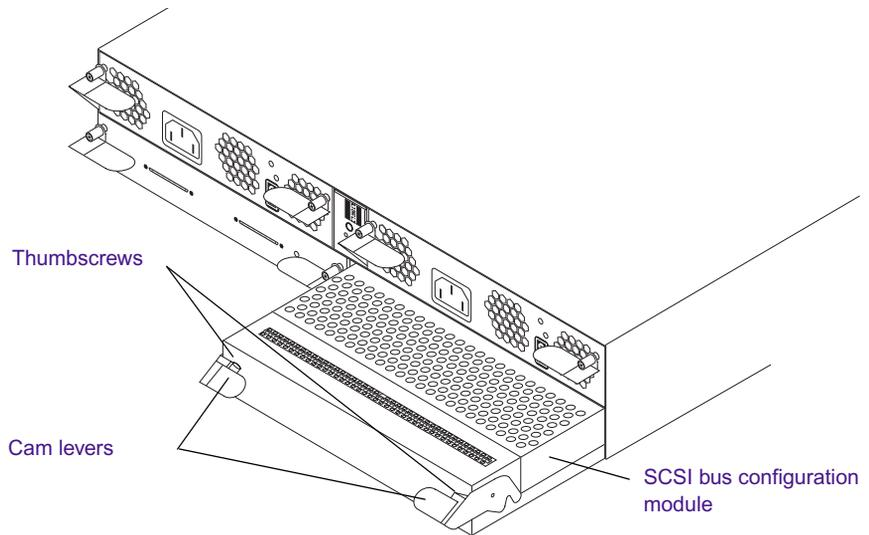

Figure 9 Removing the SCSI Bus Configuration Module
The location of the SCSI bus configuration module is shown in Figure 9. To change the MediaDock Ultra320 into a dual-bus configuration, relocate a circuit board inside the module.
1. Using a Phillips screwdriver, loosen the two thumbscrews attached to the SCSI bus configuration module (see Figure 9).
2. Push the cam levers down to eject the module and pull it out of the enclosure (see Figure 9).